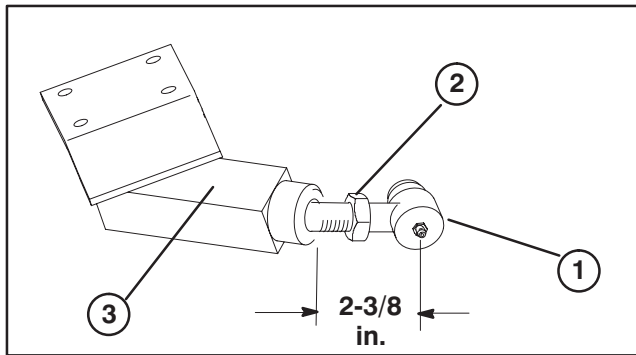

Figure 5
CONNECT RIGHT-HAND PUSH ARM TO CUTTING UNIT (Fig. 5– 6)
9. Tighten large jam nut securing ball joint to push arm adapter (Fig. 5). When tightening jam nut, hold ball joint straight to permit proper oscillation during raising and lowering of cutting unit. Carefully remove wood block holding push arm down.